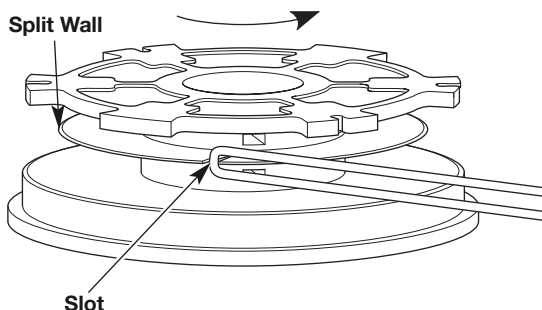

Fig. 16
2. Insert the loop into the slot in the split wall (Fig. 16). Wind the line tightly in the direction shown on the bottom of the inner reel until about 6 inches (150 mm) of line remains. Keep the top half of the line above the split wall and the bottom half of the line below the split wall.